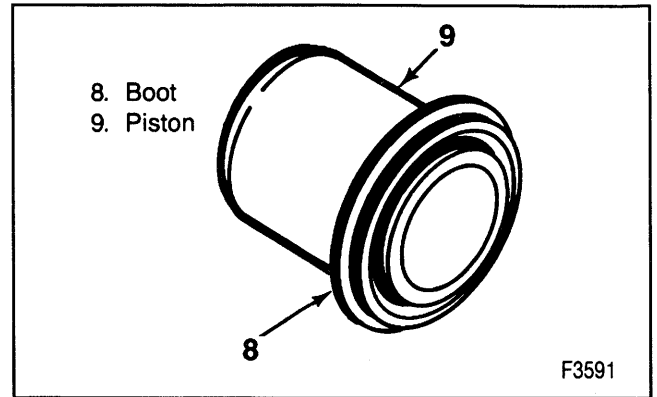

Figure 27—Installing the Boot on the Piston
2. Piston seal (10).
3. Boot (8) on piston (9) (figure 27).
4. Piston (9) and boot into caliper bore.
- B. Seat boot in housing using J 36474, J 36475, or J 38453 (figure 27).